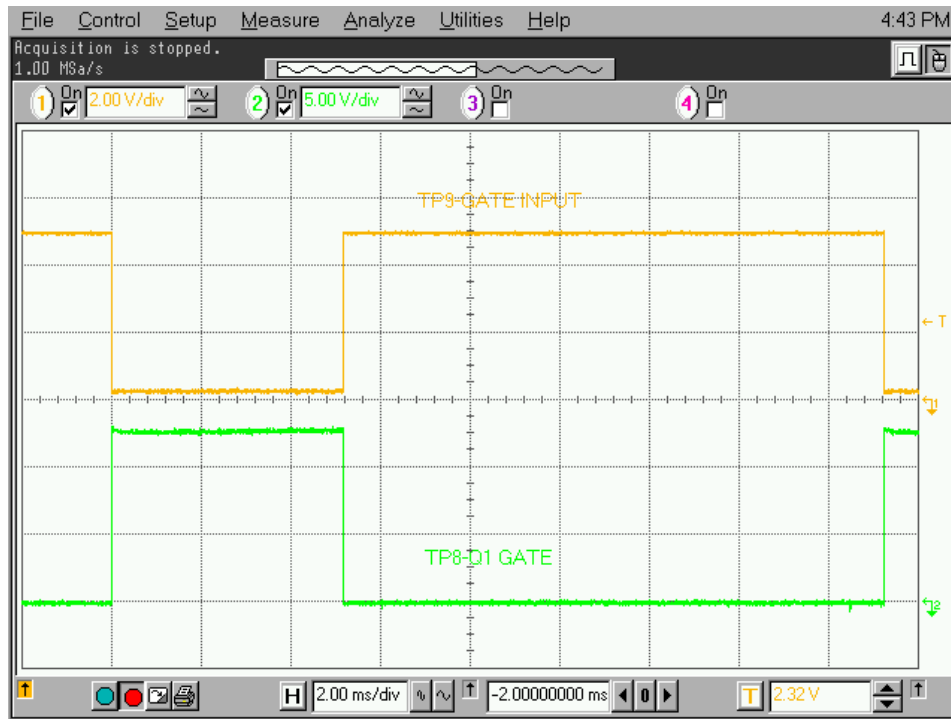

Figure 6.34 – Gating pulses
18. Verify that the signals at TP9 and TP8 are as shown in Fig. 6.34.